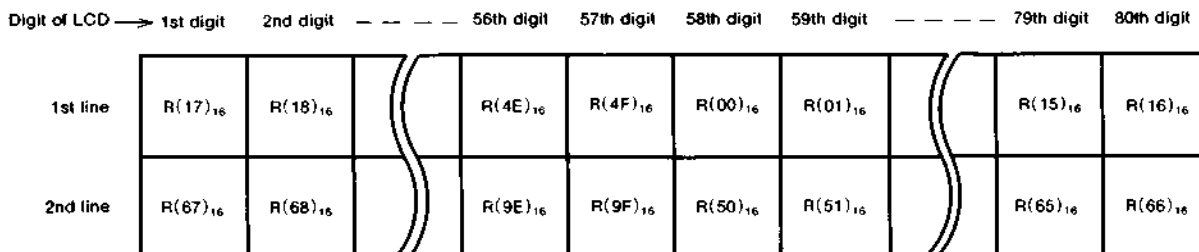

Fig.6 Example of display address
When the content of the display start address register is (17)₁₆, the LCD is given by Fig. 6.